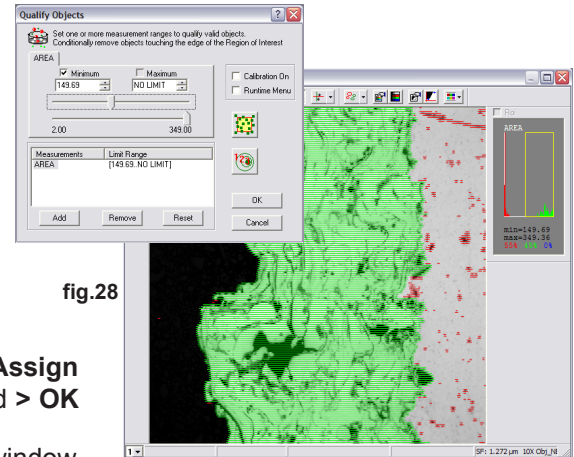

fig.28
7. Click on the **Qualify** icon in the **Task** toolbar. Reject unwanted objects by moving the top slider to 150, depending on the calibration factor loaded, or until unwanted objects appear red (**fig.28**).